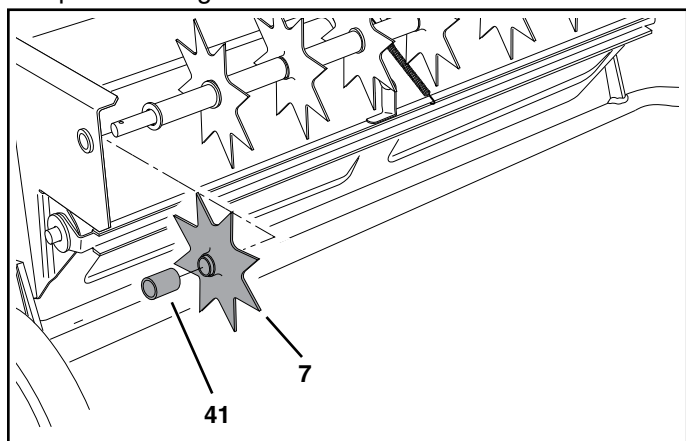

FIGURE 21
- Place a spike disk (7) and a short spacer tube (41) onto the shaft. Fit the short spacer tube onto the ends of the flanged bearings in the spike disk and in the end plate. Push the shaft on through the flanged bearing in the end plate. See figure 21.